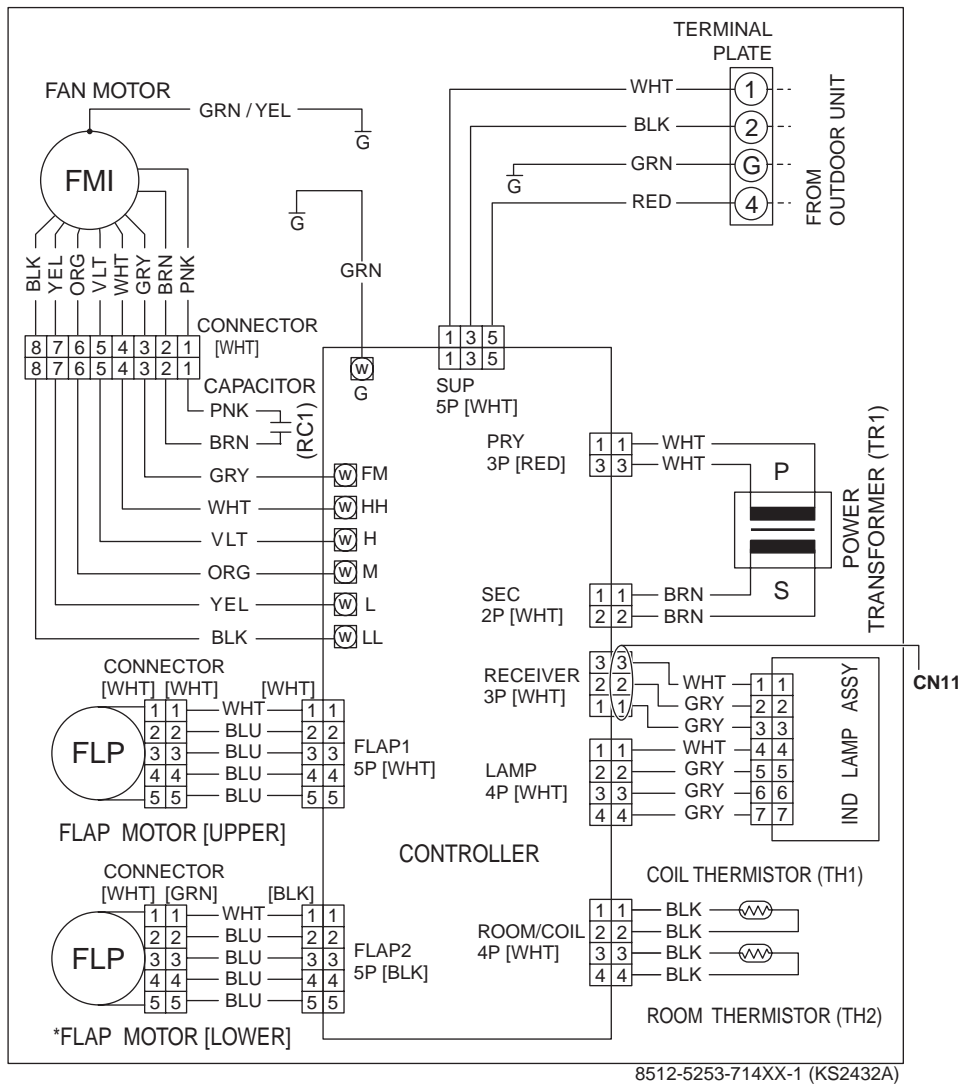

Fig. 5
4. Pull out the lead wire that connects the remote control receiver to CN11 of the controller (PCB ass'y). (Fig. 5 on next page)